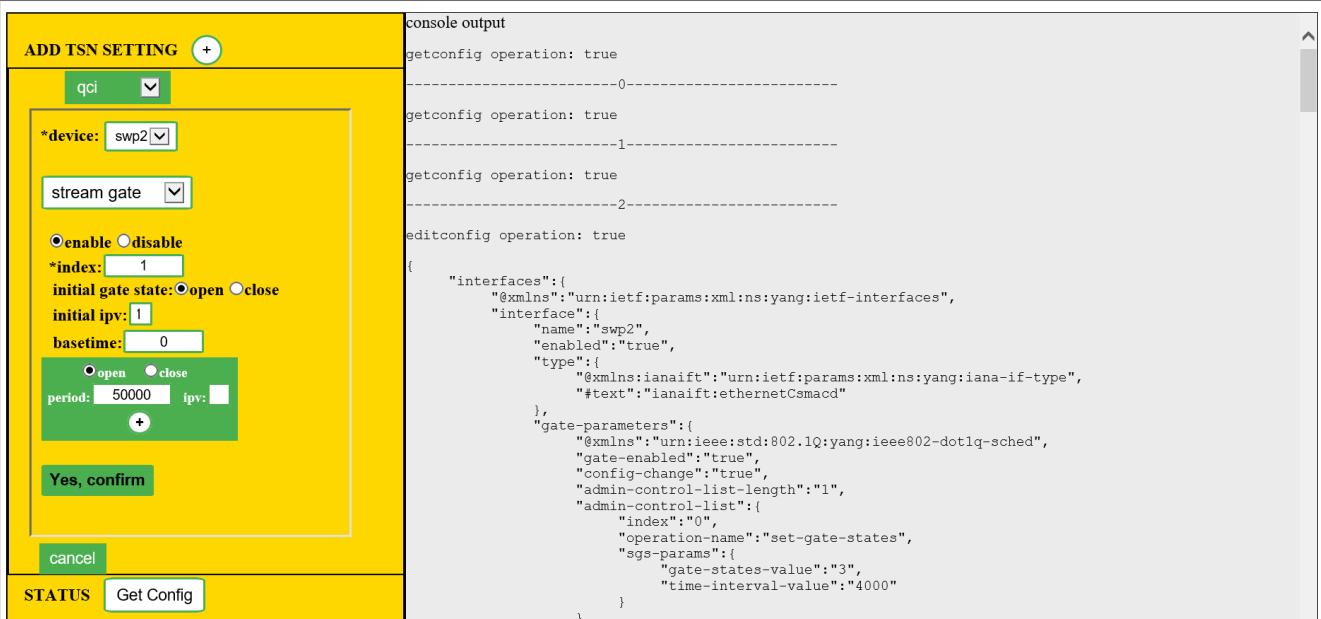

Figure 69. Qci configuration
- Qci Configuration: Selecting 'qci' option setting displays the options as shown in Figure 69.